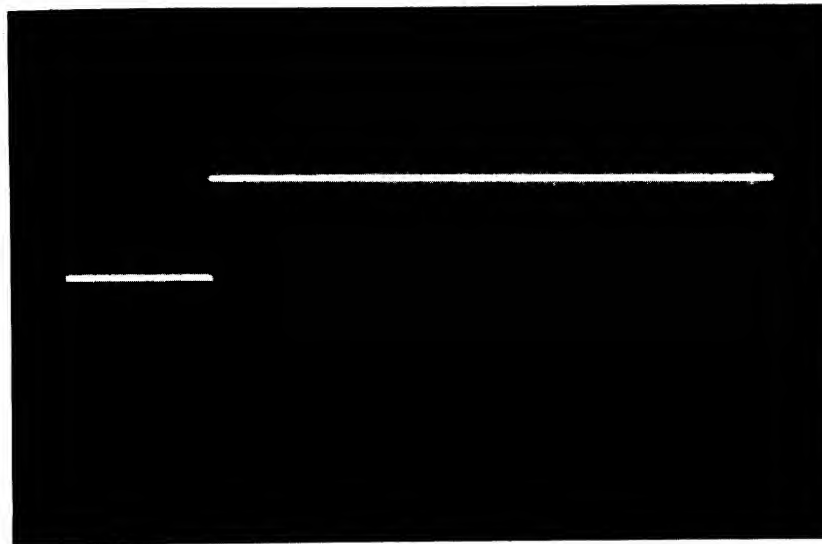

Figure 3-18 80 ms Brake Delay Adjustment
- 6 To adjust the left hub brake delay, turn the upper potentiometer for a delay of 80 ms (see Figure 3-18).
- 8 To adjust the right hub brake delay, turn the lower potentiometer for a delay of 80 ms (see Figure 3-18).